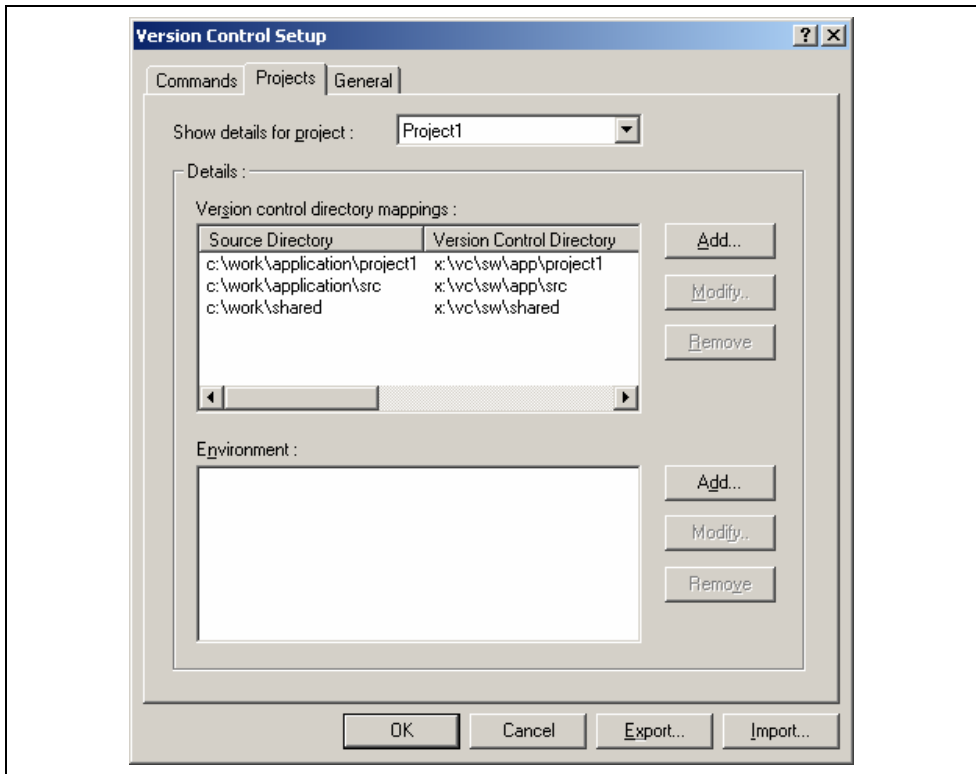

Figure 8.7: Version Control Setup Dialog Projects Tab
However, when executed, this command can only ever get the file MAIN.C. To resolve this problem, HEW uses a system of placeholders and directory mappings. The latter tell the HEW which "working" directories (i.e. where source files are being worked on) map to which "controlled" directories (i.e. where the source files are stored in the version control system). Mappings between these two directory systems can be specified via the "Projects" tab of the "Version Control Setup" dialog (figure 8.7).
1. Select [**Version Control->Configure...**]. The dialog shown in figure 8.1 will be displayed. Select the “Projects” tab, and the dialog shown in figure 8.7 will be displayed.
1. Select [**Version Control->Configure...**]. The dialog shown in figure 8.1 will be displayed. Select the "Projects" tab, the dialog shown in figure 8.7 will be displayed.
Select the “Projects” tab of the “Version Control Setup” dialog to view the current settings (figure 8.7).